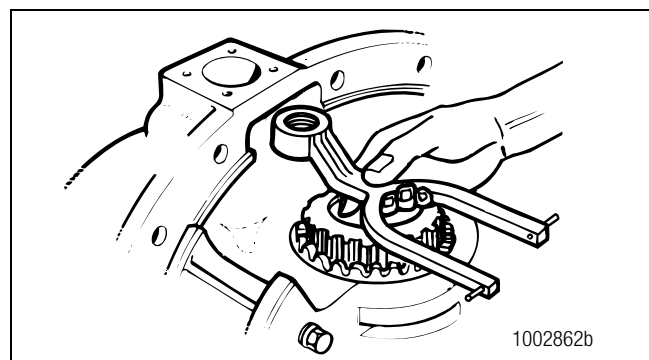

Figure 6.9
- Install the shift fork into its correct position in the carrier case. Figure 6.9.